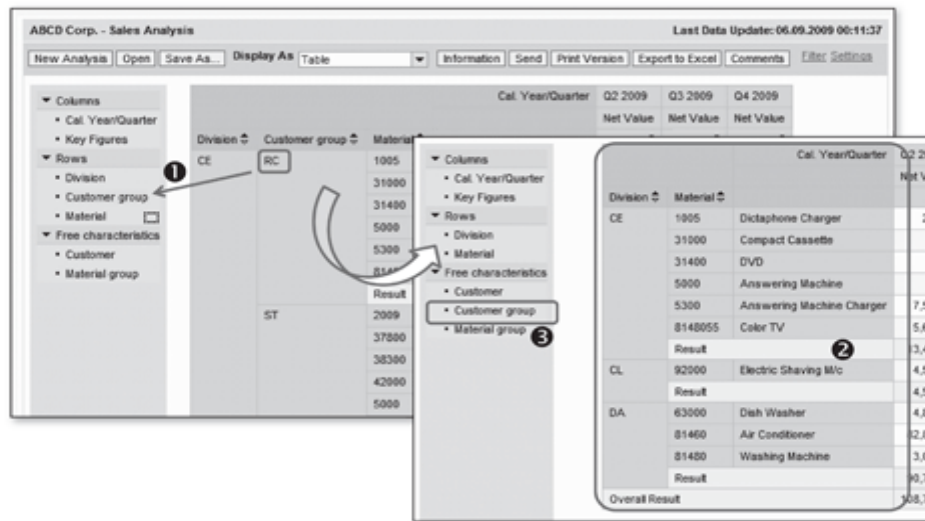

Figure 10.53 Navigation: Filter by a Characteristic Value
- Filter by characteristic value: Refer to the analysis shown in Figure 10.53. If you want to restrict the results for the Customer Group = RC characteristic value, simply drag the RC value and drop it over the customer group characteristic in the navigation pane (❶ of Figure 10.53). This navigation is equivalent to the Keep Filter Value context menu function. The customer group characteristic is restricted for RC value and is removed from the drilldown (❷ and ❸).